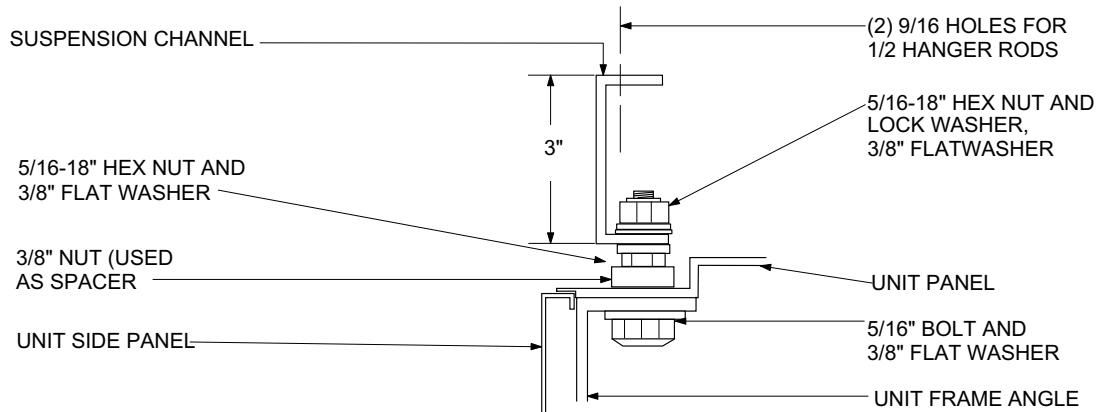

FIGURE 2: TYPICAL SUSPENSION CHANNEL MOUNTING - 15 TON
3. Place suspension channels on the unit and secure with the bolts, spacers, nuts and washers provided. See Figure 2.